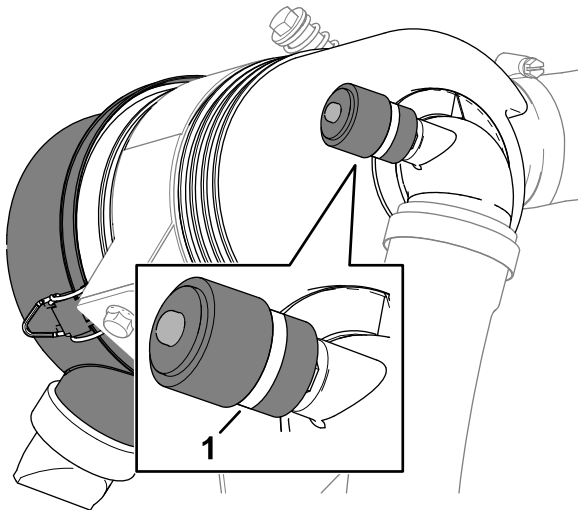

Figure 75
3. Check the service indicator at the end of the air filter housing (Figure 75).